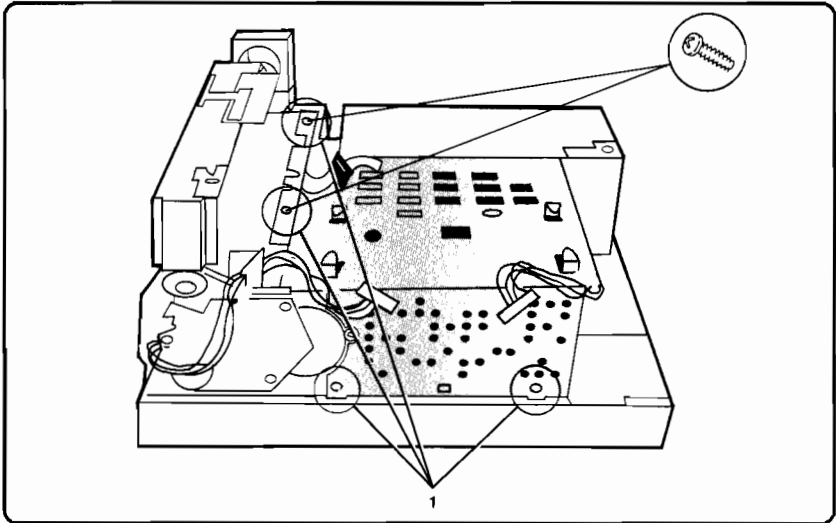

Figure 6-29. Lower PCA Shield Assembly Removal (DC Controller removed)
6. Remove the screws (4) securing the Lower PCA Shield Assembly to the printer (see Figure 6-29, callout 1).
Two different types of screws are used to secure the Lower PCA Shield Assembly in place. Two threaded Phillips screws with star washers are used on the bottom of the shield and two self-tapping Phillips screws are used on the top of the shield (see Figure 6-29).
5. Remove the Lower PCA Shield Assembly (see Figure 6-29).